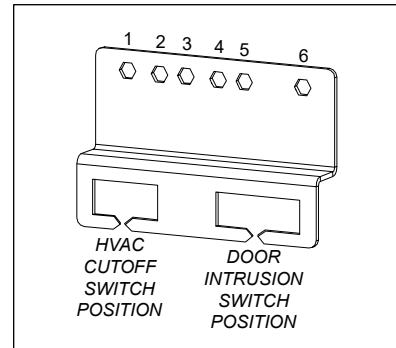

Figure 6
The kit includes two new mounting plates and two HVAC cutoff switches, for the front and rear doors. The existing 4-wire door intrusion switch fits into the opening at the right side of the plate, and the new HVAC cutoff switch fits into the left opening. See Figure 6 for mounting hole position numbers.
4. Use the two nuts removed previously to mount and secure the new plate onto the same pair of studs that the old plate occupied (studs are on the inside of the door frame). Use the mounting hole positions that will place the plate as close to the center of the bay as possible (Figure 6).